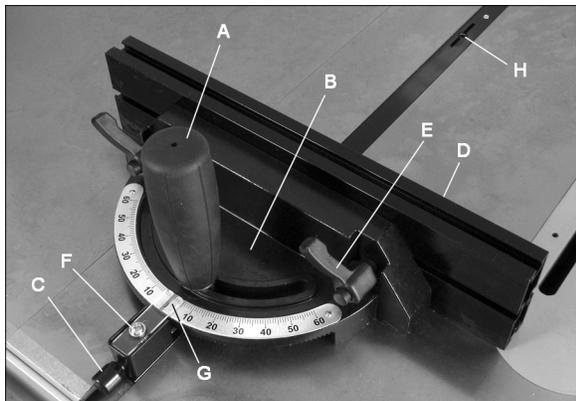

Figure 17
Refer to Figures 17, 18, 18B, and 18C.
- Loosen lock handle (A, Figure 17) by turning counterclockwise.
- Pull out spring-loaded knob (C) and rotate knob until body (B) of miter gauge is at desired angle as indicated on scale.
- Tighten lock handle (A).
The Fence (D, Figure 17) can be adjusted by sliding to the right or left or removed entirely.
**NOTE:** The bar of the miter gauge has two slots with *set screws* (H, Figure 17). Adjust these set screws (4mm hex key) to eliminate any play between bar and miter slot.